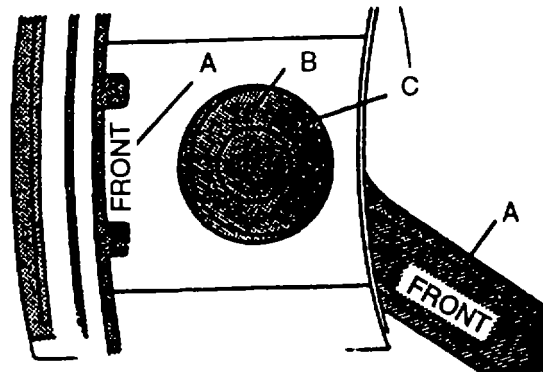

FIGURE 3-163. Assembled Piston, Pin, and Connecting Rod
- (3) Use deglazer, to deglaze liner and obtain a 45 degree cross hatch pattern, refer to FIGURE3-163.
- (2) Assemble pistons (7) and connecting rods (4), making sure word **FRONT** (A, FIGURE 3-163) on side or top of piston and side of connecting rod are on same side.